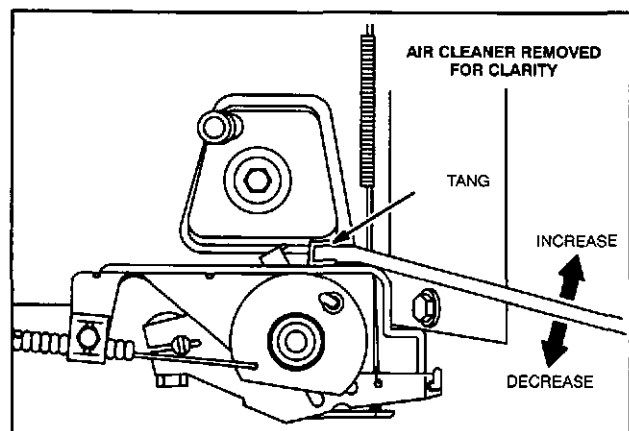

Fig. 26 - Adjusting Top No Load Speed
4. Move control throttle lever to "FAST" position and check engine RPM with Tool #19200 or equivalent. Bend tang with Tool #19352 to obtain desired Top No Load RPM, Fig. 26.